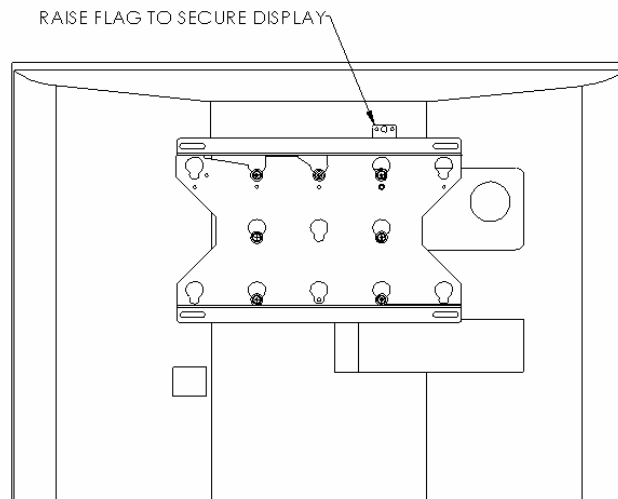

Figure 5
5. With the aid of another person, lift the display up to the mount, align the mounting buttons with the teardrop slots in the mount, and set the screen into place (see Figure 5).